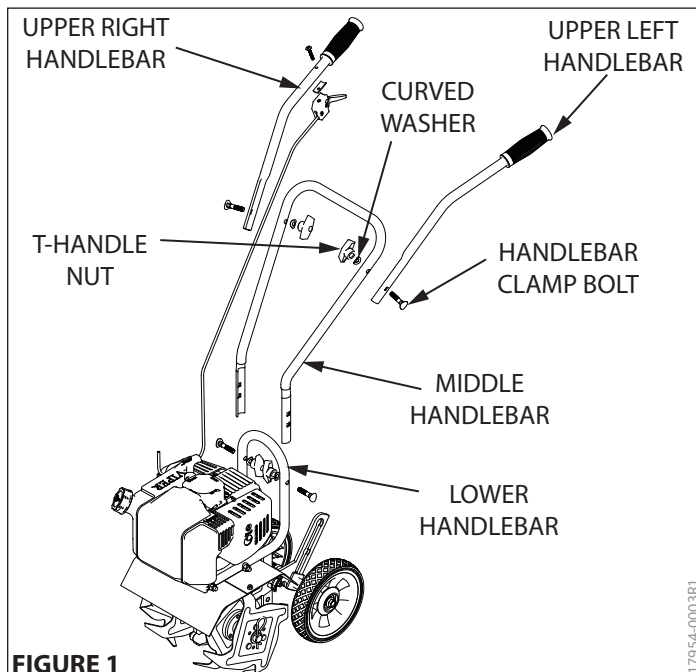

FIGURE 1
2. Using two T-handle nuts, two handlebar clamp bolts, and two curved washers, attach the middle handlebar to the lower handlebar that is already connected to the cultivator assembly. The middle handlebar can be installed in one of two positions, one high and one low. **DO NOT** overtighten the T-handle nuts. **SEE FIGURE 1**
3. Attach the upper right and left handlebars to the middle handlebar using the two remaining T-handle nuts, handle clamp bolts, and curved washers. **SEE FIGURE 1. DO NOT overtighten the T-handle nuts.**